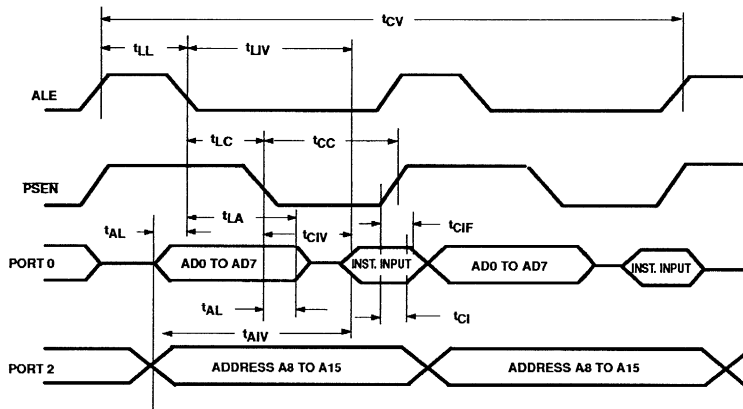

Figure 28. Read from Program Memory
**PROGRAM MEMORY** (See Figure 28)